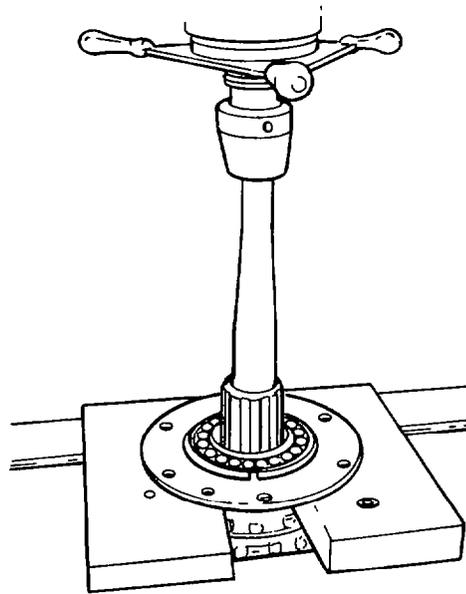

Fig. 302 — Separating Cage and Bearing Retainer Cover
- e. Use a hydraulic press to separate the cage from the bearing retainer cover (see fig. 302).